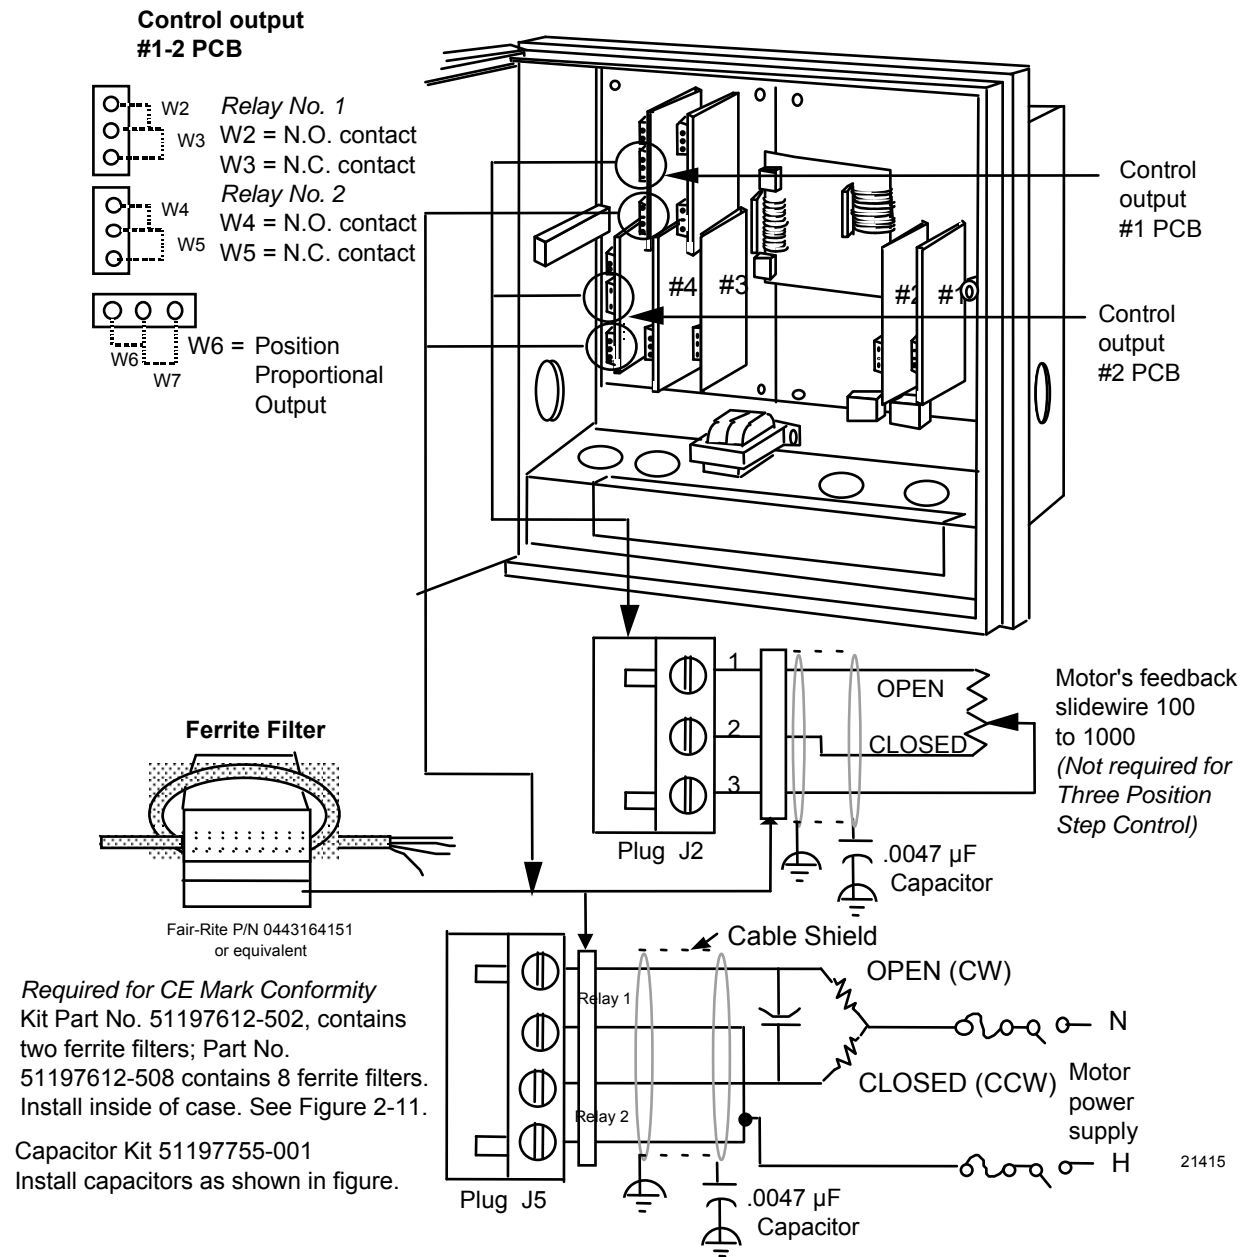

Figure 2-17 Position Proportional Control Output or Three Position Step Wiring
Refer to Figure 2-17 and follow the procedure in Table 2-16 to wire position proportional or 3 position step control outputs.
2	Locate connector J2 and J5 on the control output #1 printed circuit board (refer to Figure 2-17 for location).
3	Locate jumper positions W2/W3 and W4/W5 below connector J5 on the printed circuit board. Remove plug-in output #1 printed circuit board for better access to the jumpers. Be sure to tag and remove all the plug connections to the printed circuit board before removing it. Position the jumpers as shown in Figure 2-17 for desired relay contact action. Locate jumper position W6/W7 on the bottom left portion of the board. Make sure position W6 is selected for position proportioning, then reinstall the printed circuit board.
5	For CE Mark conformity: <ul style="list-style-type: none"> • install the ferrite filter as shown in Figure 2-11 • install the shield capacitors as shown in Figure 2-17.
8	Insert the wires from the motor's feedback slidewire into the appropriate screw clamps as shown (refer to Figure 2-17). Tighten the screws to secure the wires.
10	Insert the wires for the motor into the appropriate screw clamps as shown (refer to Figure 2-17). Tighten the screws to secure the wires.
Relay #2 is used for time proportional control. Relay 2 can also be used for 3 position step control (see Figure 2-17).
*Relay 2 is used for time proportional duplex. Also used for 3 position step. See Figure 2-17.